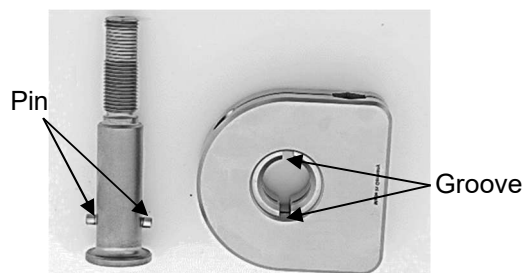

Fig. 11
When mounting the cross connector, ensure that the pins of the threaded rod (4) engage in the grooves of the lower clamping piece (3) (Fig. 11).